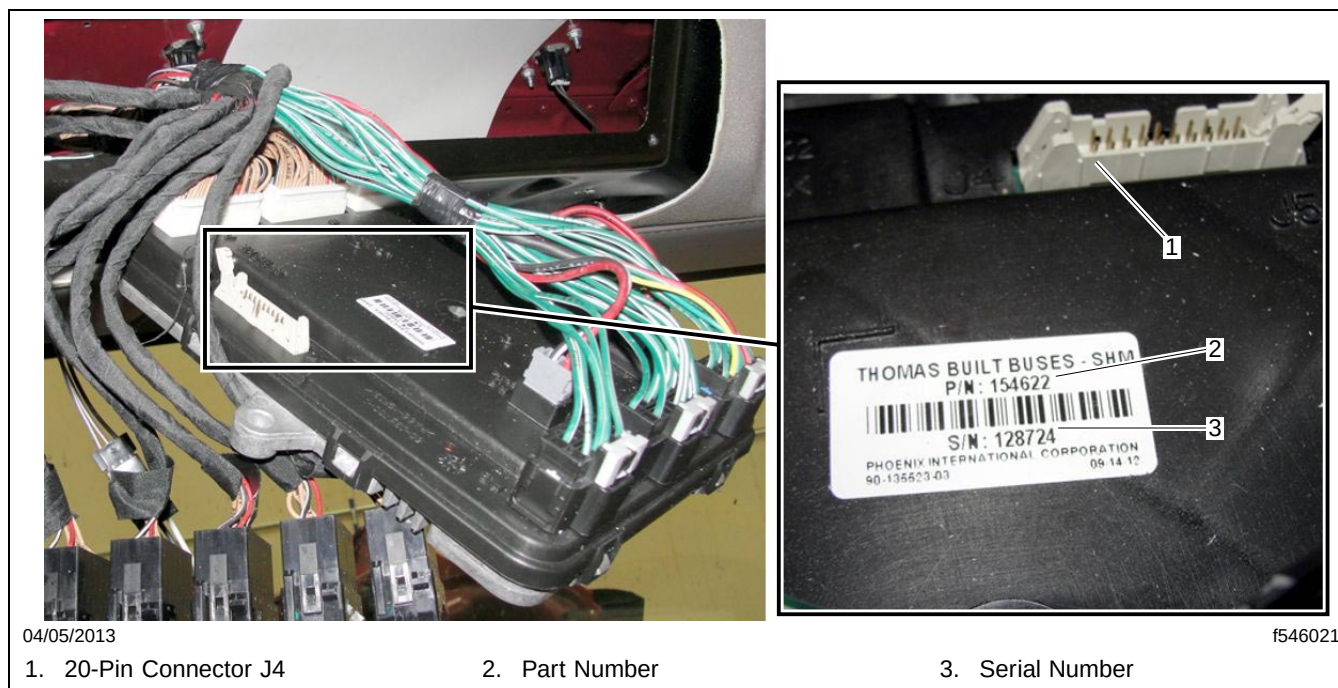

Fig. 2, SHM Label Inspection
5. Inspect the label on the back of the SHM for the serial number. See Fig. 2.